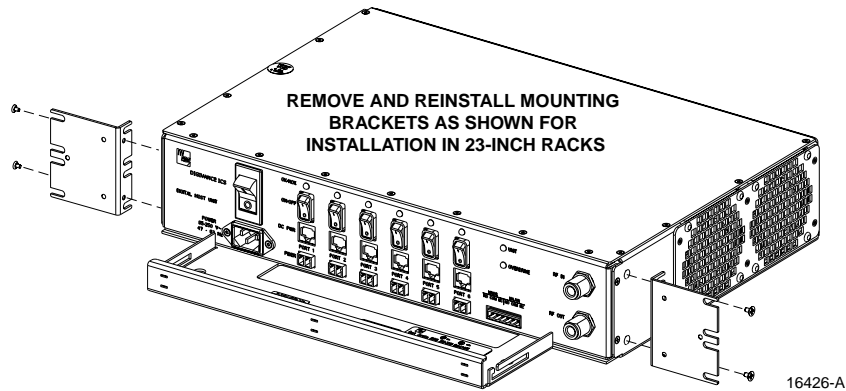

Figure 15. Installing the Mounting Brackets for 23-Inch Rack Installations
3. Reinstall both mounting brackets so the long side of the bracket is flush with the DHU front panel as shown in Figure 15. Use the screws removed in step 2 to re-attach the brackets to the DHU enclosure.